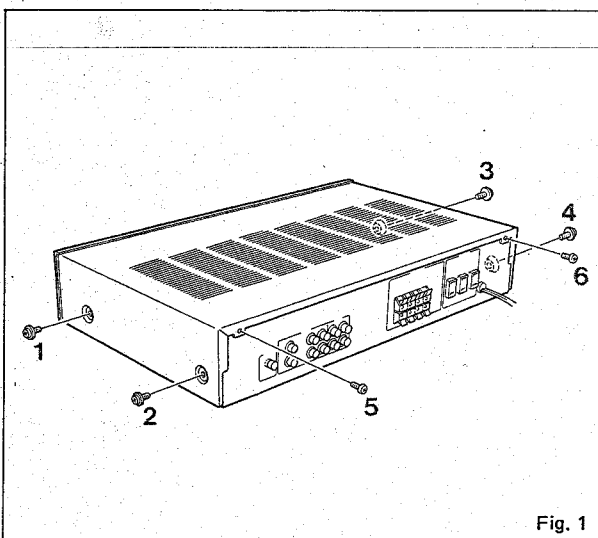

Fig. 1
Remove screws ① through ⑥ in fig. 1 and then remove the top cover.